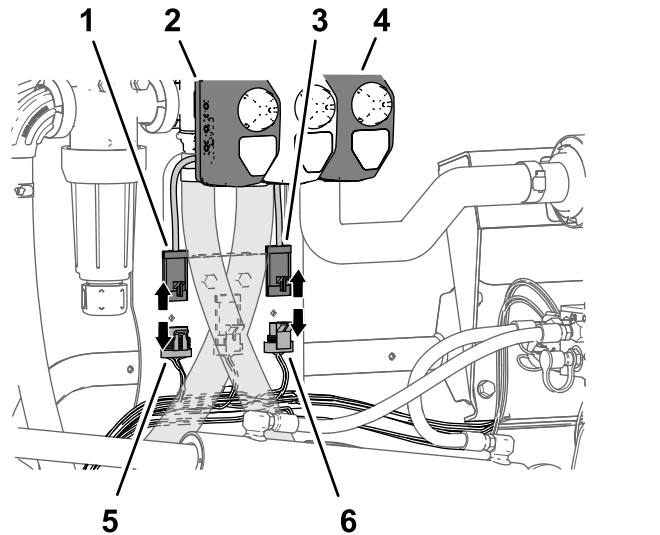

Figure 30
2. Disconnect the 4-socket connector of the machine wire harness labeled RATE VALVE from the 4-pin connector of the rate-valve actuator (Figure 30).
3. Disconnect the 3-socket connector of the machine wire harness labeled MASTER SPRAY VALVE from the 3-pin connector of the master spray-valve actuator (Figure 30).